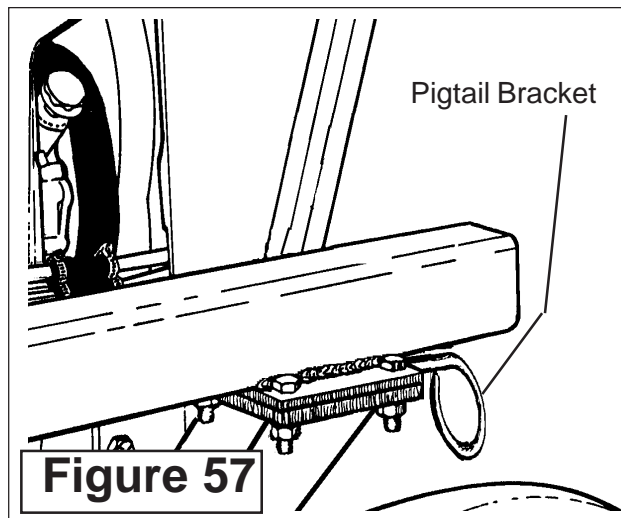

Figure 57
7. The Pig Tail Brackets will be welded to the underside of the Rails, so it will be necessary to scrape the paint off from this area before attaching and welding them (See Figure 57). These Pigtails are to hold the Hoses up. Be sure to run the hoses for the Boom through these Pigtail rings.